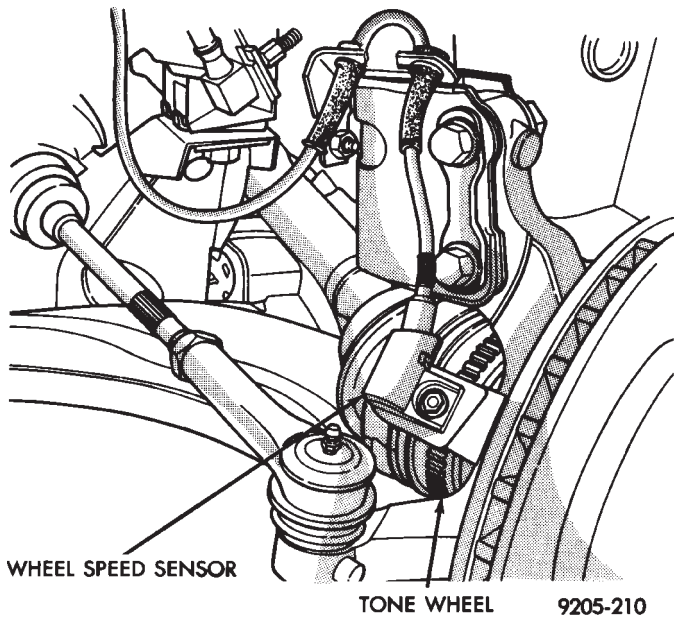

Fig. 4 Front Wheel Speed Sensor FWD/AWD
One Wheel Speed Sensor (WSS), is located at each wheel (Fig. 4, 5 and 6) and sends a small (AC) electrical signal to the control module (CAB). This signal is generated by magnetic induction. The magnetic induction is created when a toothed sensor ring (Tone Wheel) passes by the stationary magnetic (Wheel Speed Sensor). The (CAB) converts the (AC) electrical signal
The front Wheel Speed Sensor (Fig. 4) is mounted to a boss on the steering knuckle, for both the Front Wheel Drive and All Wheel Drive applications. The Tone Wheel is part of the outboard constant velocity joint housing.